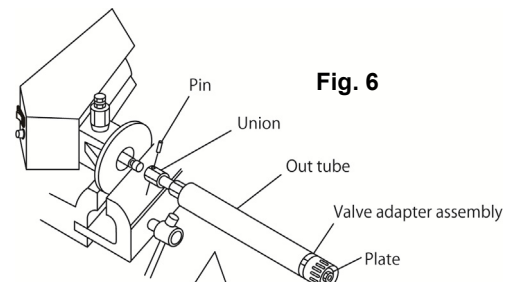

Fig. 6
- 4) Fix the pump assembly on vise. (Fig.6)
- 5) Set a spanner on the valve adapter assembly and unscrew it. The suction tube can be pulled out from the motor. Continue to pull it out until it touches the plate. This will expose the union connecting to the Connecting Rod of the motor. Pull out the pin and unscrew the union, and the lower pump can be separated from the motor. Pull out the out tube. (Fig. 6)